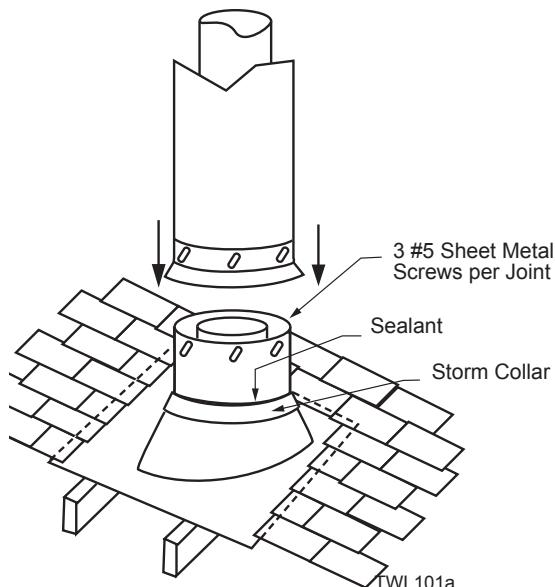

Figure 29 -
7. Install roof support (*Figure 27*) and roof flashing making sure upper flange is below the shingles. *Figure 29*
8. Install appropriate pipe sections until the venting is above the flashing. *Figure 29*